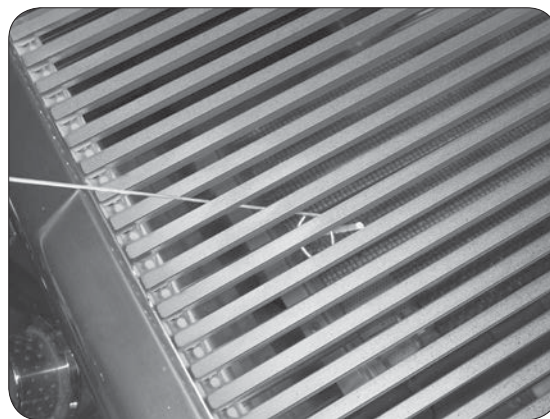

Fig. 23-2 - Manual lighting
2. Insert either a burning long-barrel butane lighter, a burning long-stem match, or a burning match held by a wire extension holder through the cooking grid opening to the top of the burner (Fig. 23-2).
4. If the burner does not light within five (5) seconds of turning the control knob, **immediately depress the knob and turn the valve to OFF**. **WAIT FIVE (5) MINUTES** before repeating steps 2 through 4 of the **MANUAL LIGHTING** instructions.